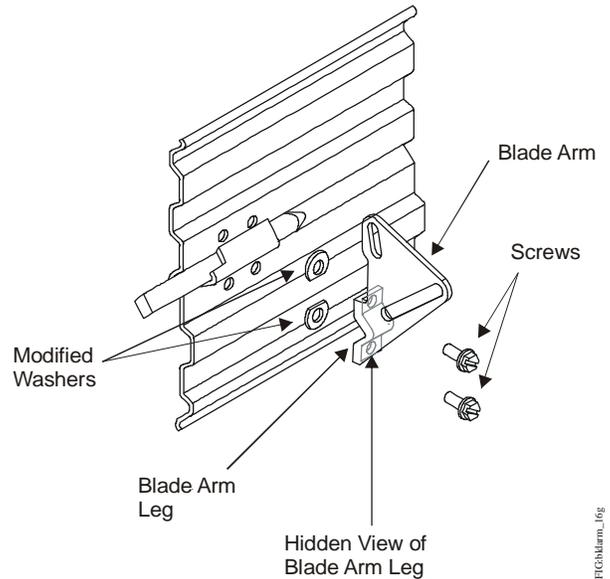

Figure 11: Attaching to 16-Gauge Blades
- 16-gauge blade: Use the two #12-24 x 1/2 in. hex-head, self-tapping screws, and the modified washers. See Figure 11.